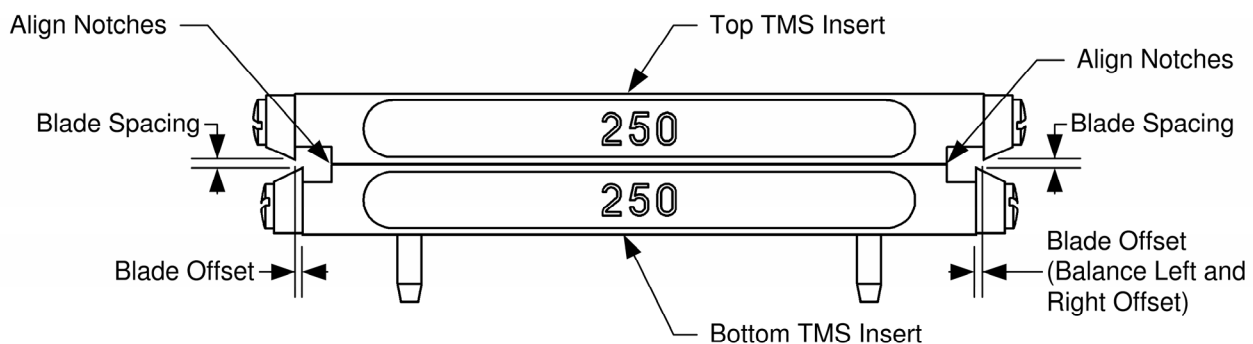

Figure 57 **Aligning the Top TMS Insert**
4. Align the top TMS insert so that the offset on the right and left side between the top and bottom plates is the same. This should correspond to aligning the “notched” edges of the top and bottom insert as shown in Figure 57.